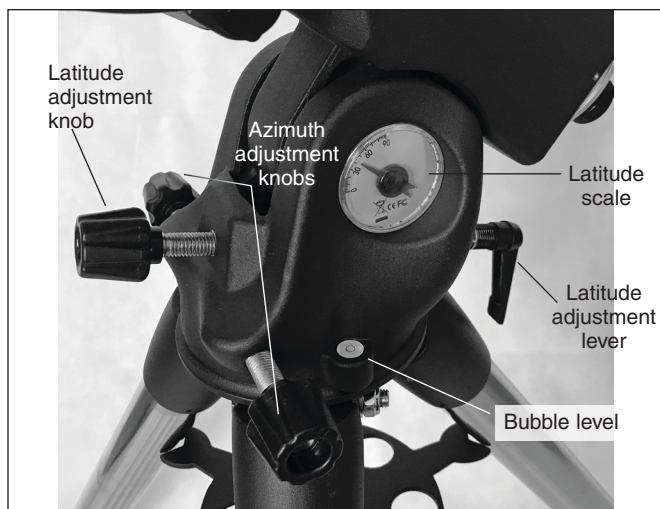

Figure 13. The altitude and azimuth adjustment knobs and lever are used in polar alignment.
Setting the R.A. axis to the correct latitude is necessary for accurate polar alignment and tracking. Refer to the latitude scale while rotating the latitude adjustment lever and knob to the proper tilt (**Figure 13**). Loosen one while tightening the other. Push the spring-loaded lever toward the bolt to turn the bolt. The latitude should be set to the same latitude at which you are located.
3. Level the mount by adjusting the tripod leg lengths while checking the built-in bubble level (see Figure 13).